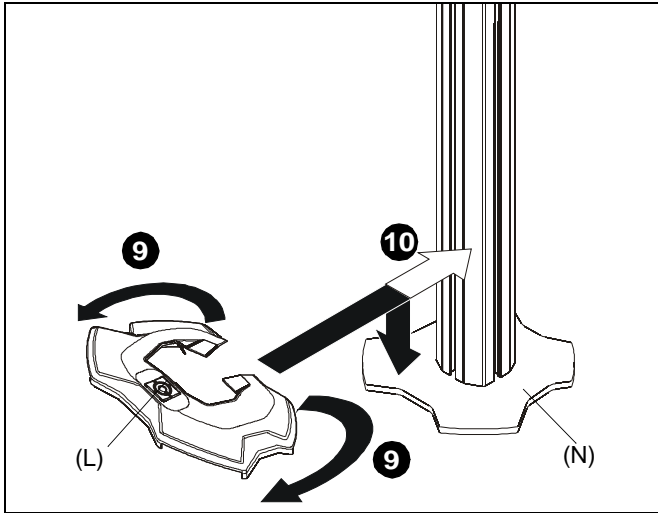

Figure 3
9. Carefully manipulate base cover (L) to create an opening large enough to wrap cover around array column. (See Figure 3)
10. Wrap base cover (L) around column and slide it down until base cover fits securely onto grommet plate (N). (See Figure 3)